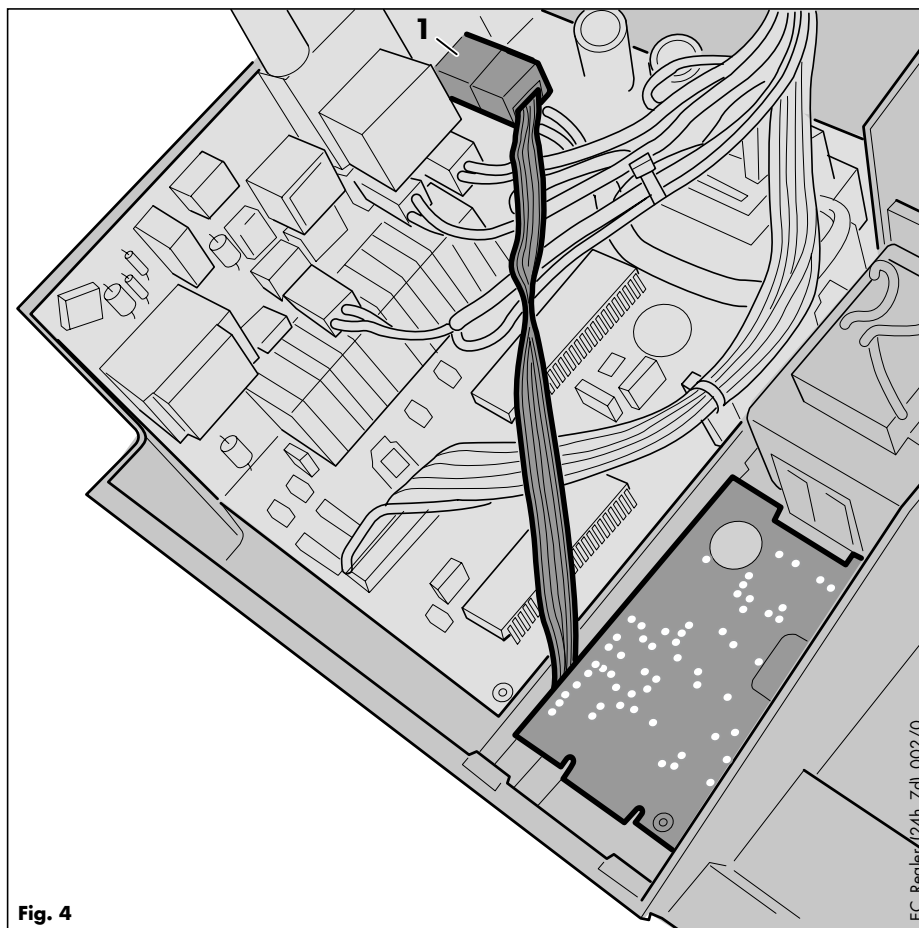

Fig. 4
- Connect the time clock lead to the control board at the purpose provided connection point (1, fig. 4). The clock lead should be connected to the pins marked X14.